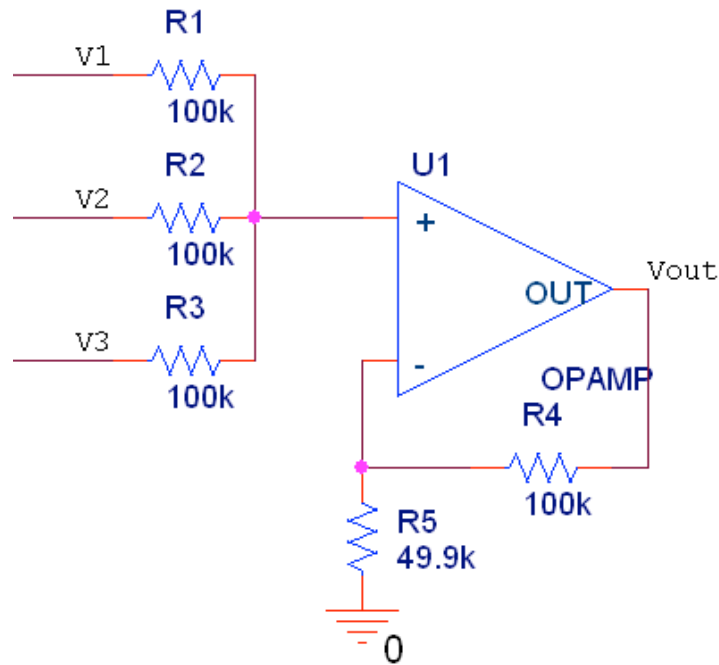

Figure 2: Summer-Circuit
2. A summer-circuit is shown in Figure 2 below: